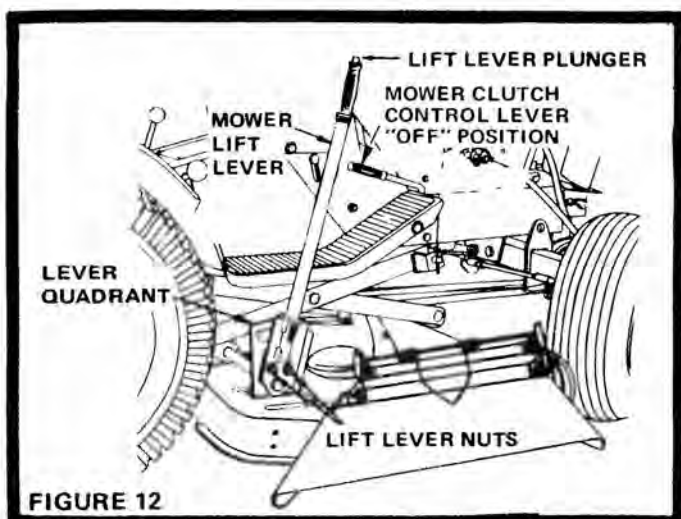
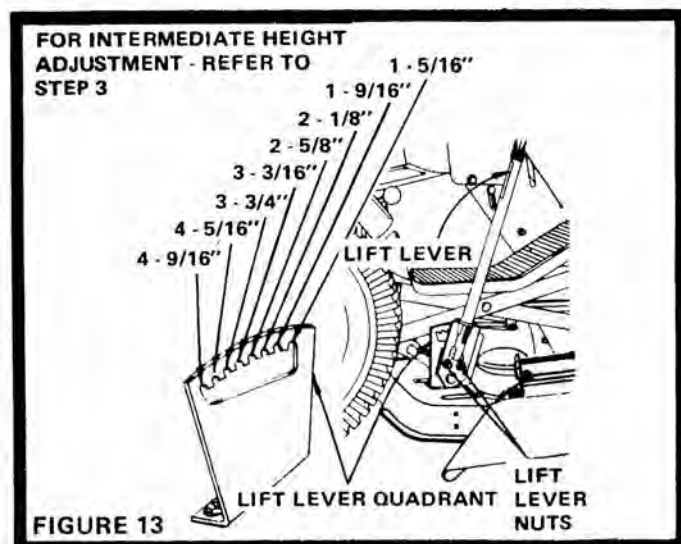

FIGURE 12
FIGURE 13
NOTE: Place Gear Shift Lever in neutral and unlock Parking Brake. Depress tractor clutch pedal and disengage ('OFF' position) Mower Clutch Control (Fig. 12 or 12A).
2. Start mowing in a low range and increase ground speed as conditions will permit. Average cutting height is approximately 2 - 1/2 to 2 - 3/4 inches. Height of cut can be adjusted by means of the Lift Lever (Fig. 13). Moving the lever forward lowers the mower. Moving it backwards raises the mower. The lever latch is actuated by depressing the latch button at the top of the lever handle (Fig. 12). Each notch changes the height of cut approximately 1/2 inch.
3. Should some intermediate height be desired, loosen the two Nuts at the bottom of the Lift Lever (Fig. 13). Rotate the Lever forward or backward relative to the shaft. Forward movement will raise the height of cut. Rearward movement will lower the height of cut. This adjustment will raise or lower the cutting range approximately 1/2 Inch - the equivalent of one notch on the Lift Lever Quadrant. Retighten Lift Lever Nuts securely.
6. Lower mower by means of the Lift Lever (Fig. 12), to its extreme low position.